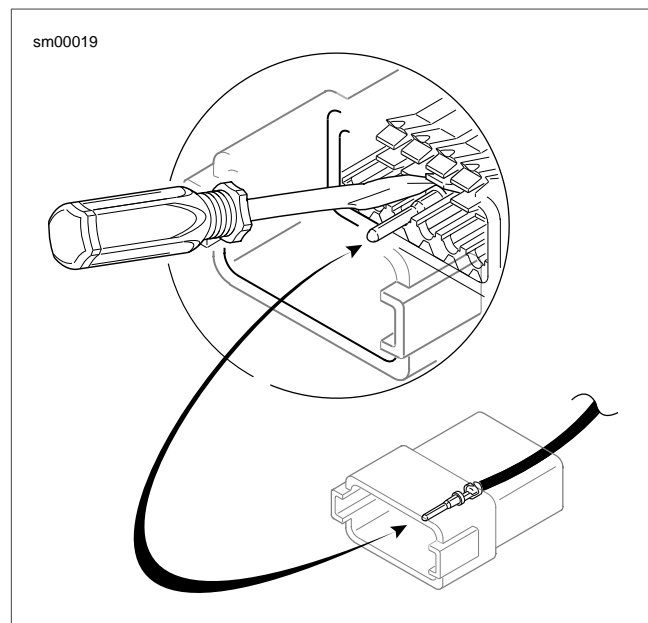

Figure A-15. Deutsch Connector: Depress Terminal Latch and Back Out Pin
2. See Figure A-15. Use a pick or small screwdriver to depress terminal latches inside socket housing and back out sockets through holes in rear wire seal.